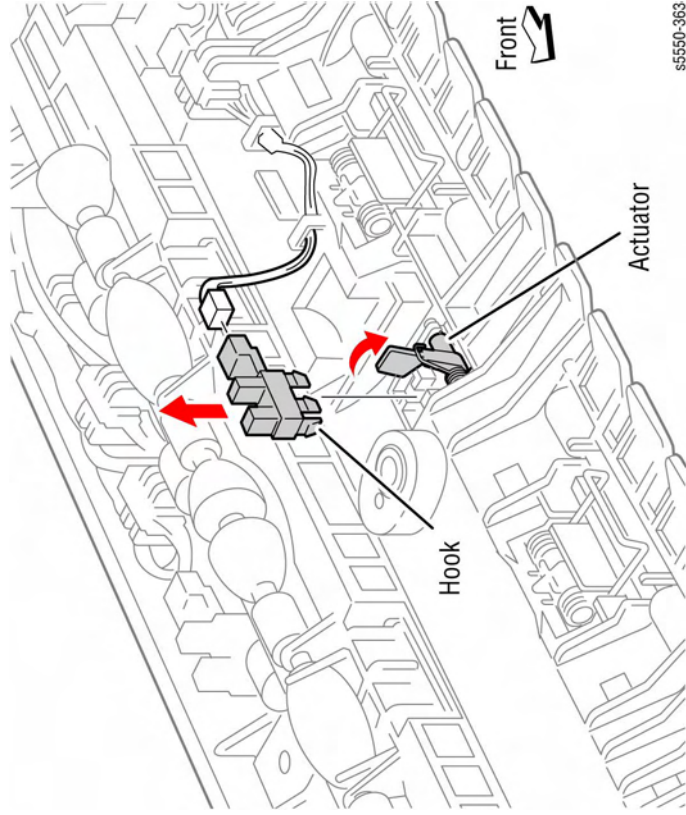

Figure 1 Removing the Exit Sensor
3. While moving the actuator in the direction of the arrow, release the hooks securing the sensor to the Lower Chute as in Figure 1.